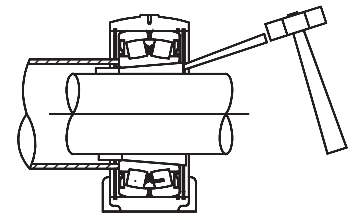

Figure 3
4. It is very important that positive contact is established between the shaft, adapter sleeve and the bearing. Tap the wide end of the adapter sleeve lightly over its entire circumference. A cylindrical sleeve may be placed against the inner ring of the bearing to ensure it remains centered for floating configuration (see Figure 3). Install the lock washer and hand tighten the locknut. Verify that positive contact is made by tapping the groove on the back side of the adapter sleeve. If the sleeve rotates, positive contact has not been established and step 4 will need to be repeated.